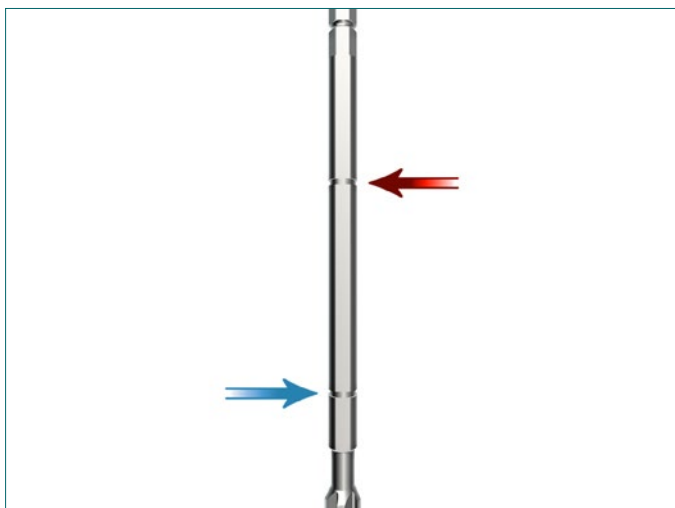

Figure 6
- ▶ When utilizing the intramedullary (IM) Resection Guide or whenever utilizing a cement restrictor, the Fluted Cylindrical Humeral Reamers should be inserted to the first line above the cutting teeth [Figure 6, Blue Arrow].
- ▶ If a long stem prosthesis is to be utilized, reaming depth is to the second line positioned near the top of the reamer shaft [Figure 6, Red Arrow].